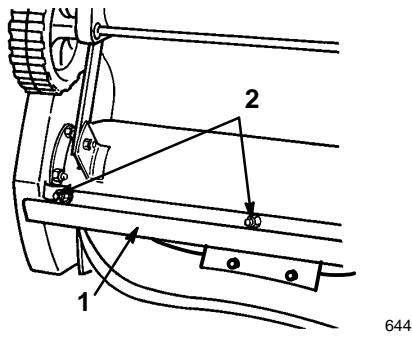

Figure 19
4. Remove three carriage bolts and the locknuts holding scraper in place (Fig. 19).